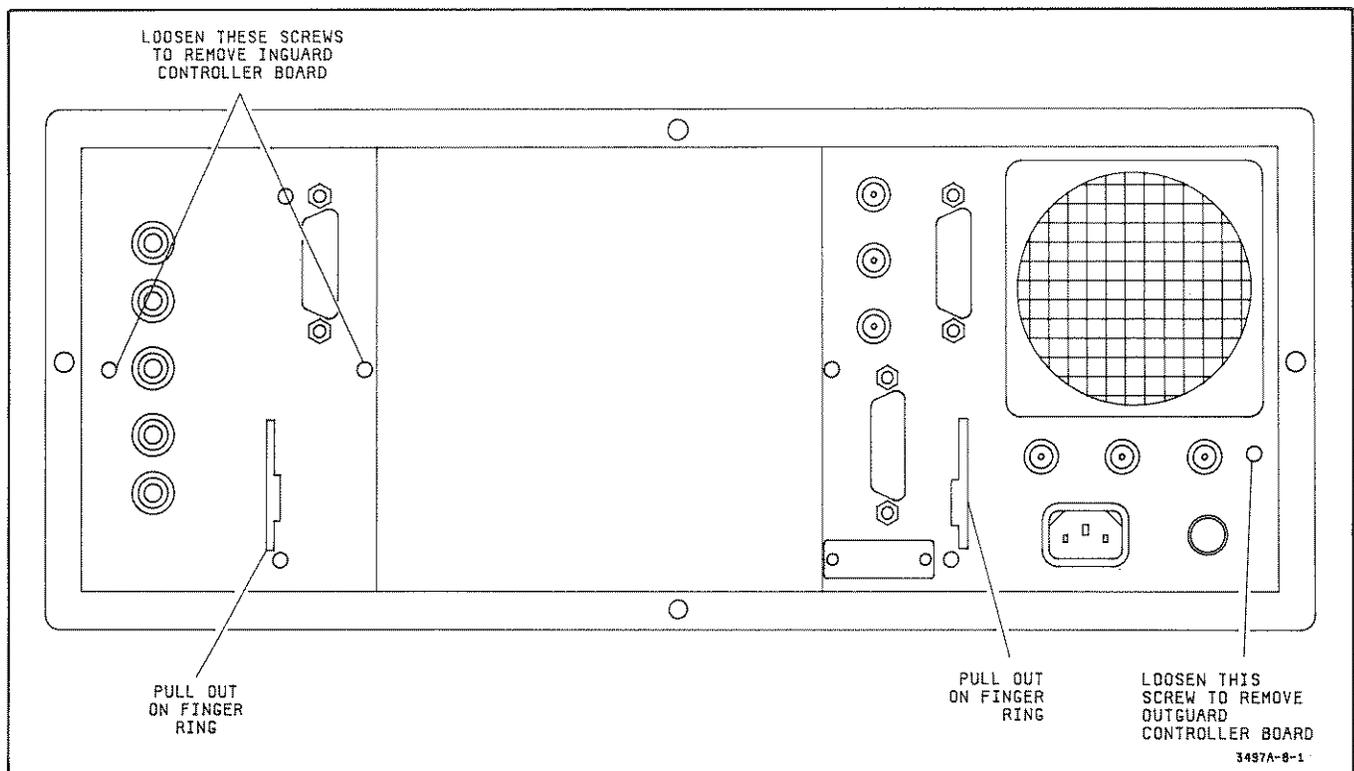

Figure 8-1. Outguard and Inguard Boards Mounting Screws and Finger Rings
c. Refer to Figure 8-1. Note that the outguard logic board and the inguard controller board are held in by one and two mounting screws, respectively. Determine which board is to be removed and locate the appropriate screws. Loosen the screws, but do not remove them. They are held in place by a rubber grommet.
d. Dependent on which board (inguard or outguard) is to be removed, locate the appropriate built-in finger ring, as shown in Figure 8-1. Pull on the ring to remove the board from the 3497A chassis.
d. Locate the appropriate mounting screws on the rear panel, shown in Figure 8-1, and tighten the screws.